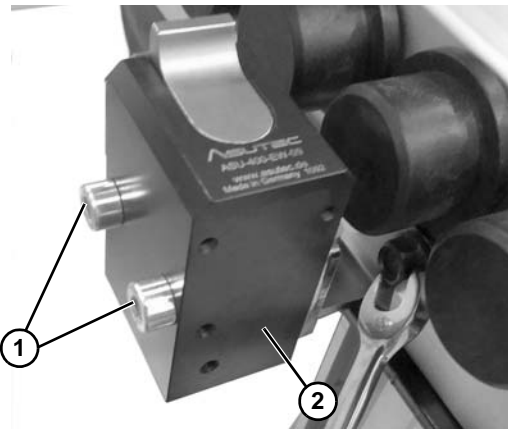

Figure 77
1. Remove two screws (**Figure 77, item 1**), air line, and pallet stop (**Figure 77, item 2**) from conveyor.